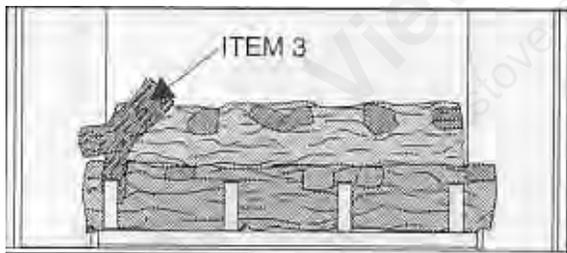

Figure 33
4. See Figure 33. Position one of the "Y" Logs (Item 3), on the indentations to the left of the Front and Back Logs. The "Y" portion of the log will be to the front, with the "straight" portion angled slightly to the right and laying on the Back Log.